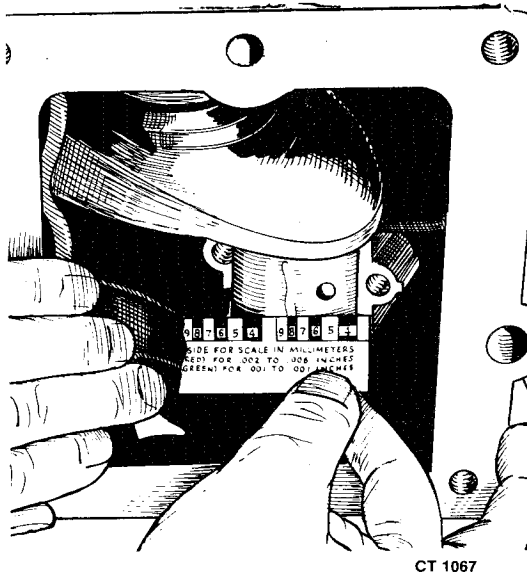

FIGURE 79. MEASURING BEARING CLEARANCE
4. Remove the bearing cap and leave the flattened Plastigage on the part to which it adheres. Compare the widest point of the flattened Plastigage with the graduations on the envelope (see Figure 79) to determine the bearing clearance.